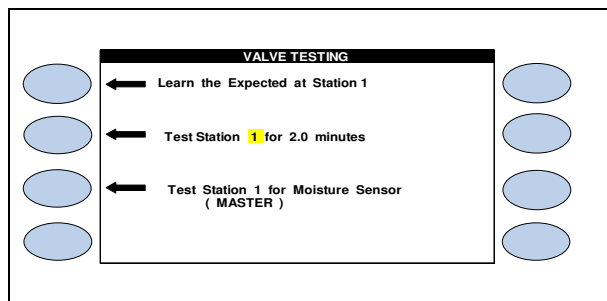

Figure 15
20.  Press the **TEST** Menu key to access the **VALVE TESTING** screen (Figure 15).